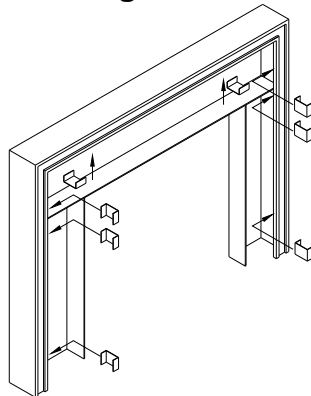

Figure 2.5b
5. Secure trim to faceplate using "U" shaped clips. (see Figure 2.5b)